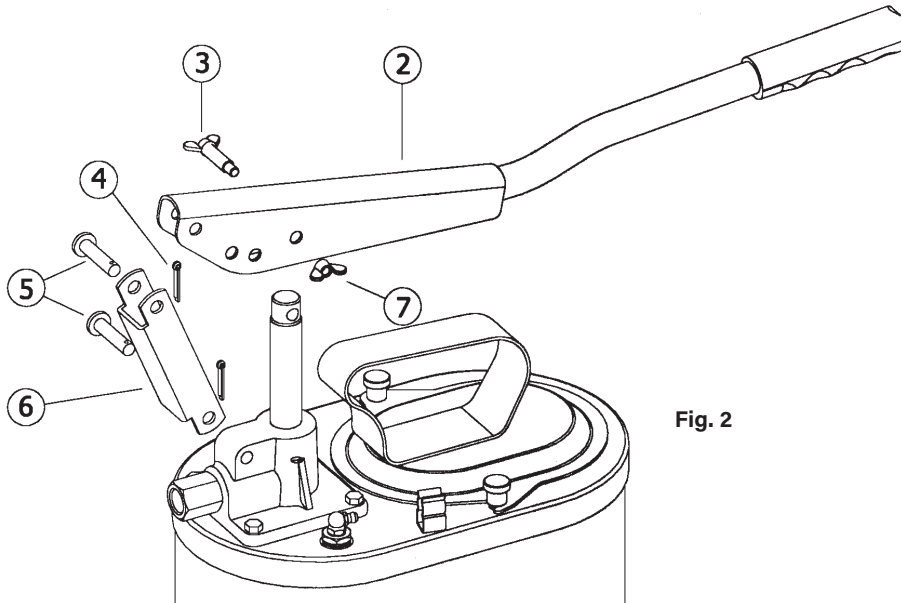

Fig. 2
1. Assemble the lever (2) and the link (6) as shown in figure 2.
2. Fix the link (6) to the pump body with the pin (5), securing it with the cotter pin (4).
3. Fasten the lever (2) in one of the three holes to the piston using the wing screw (3) and wing nut (7).
4. Assemble the link (6) to the lever (2) with the other pin (5) and cotter pin (4).